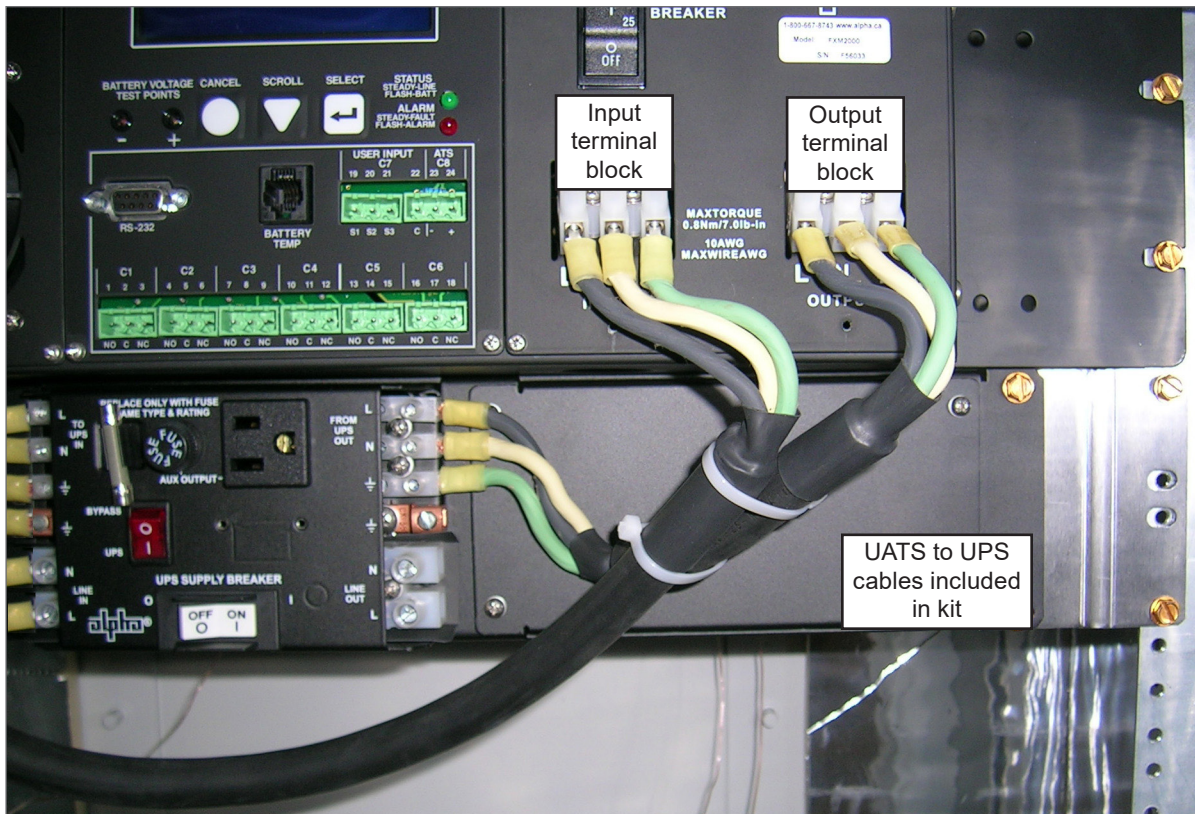
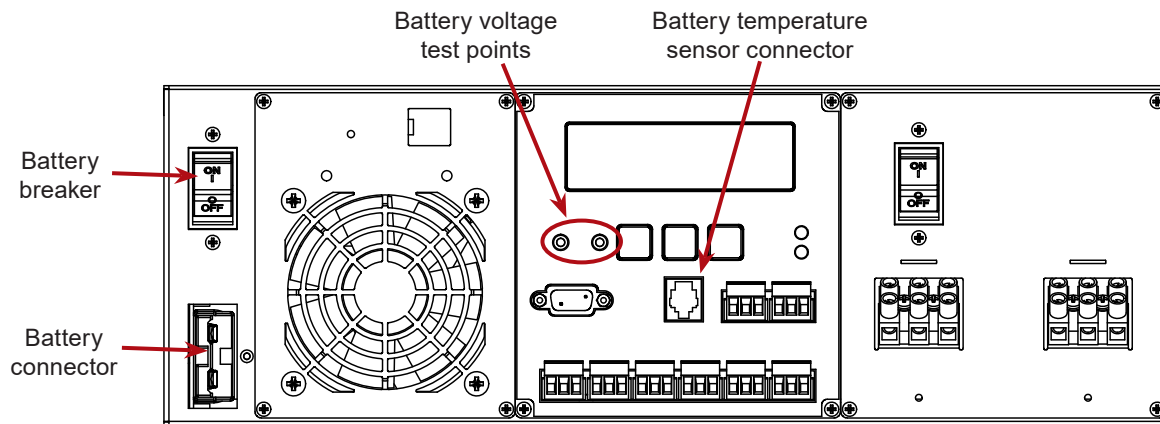

Figure 14 — FXM UPS AC Power Connection Wiring from UATS
Figure 15 — FXM 1100 Front Panel
3. Connect the batteries as shown in Figure 14 and Figure 15.